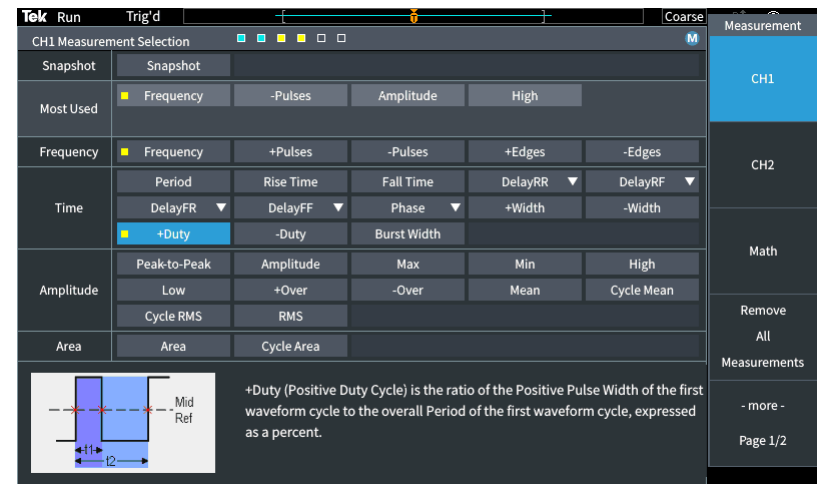

Figure 13. Adding Auto Measurement for Ch1 and Ch2
6. Press the **CH2 bezel button**. Scroll and press **MPK** to select **Peak-Peak** and **Mean** for Channel 2. (Figure 13)